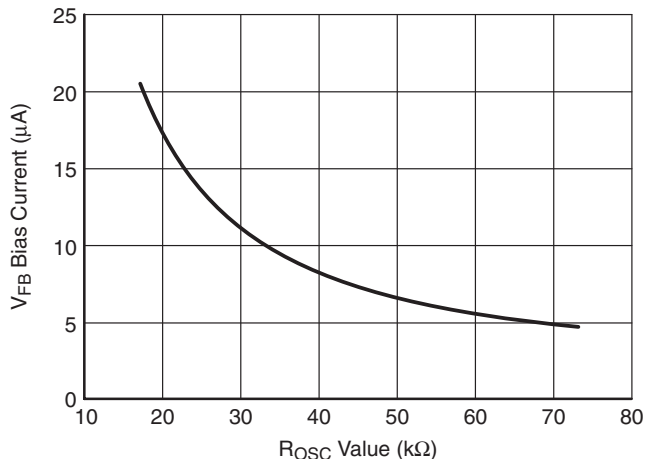

Figure 4. VFB Bias Current vs. ROSC Value
- The  $V_{\text{FB}}$  Bias Current changes with the value of  $R_{\text{ROSC}}$  per Figure 4.